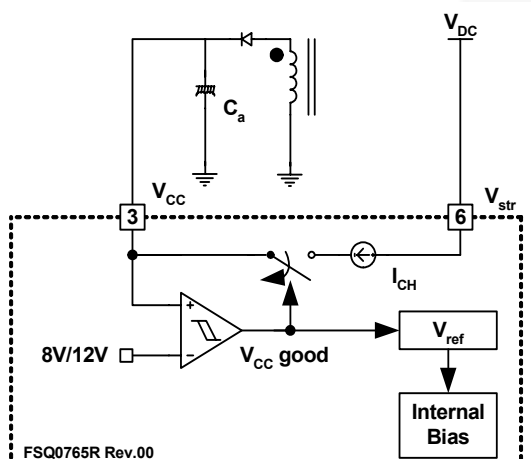

Figure 22. Start-up Circuit
**1. Start-up:** At start-up, an internal high-voltage current source supplies the internal bias and charges the external capacitor ( $C_a$ ) connected to the  $V_{CC}$  pin, as illustrated in Figure 22. When  $V_{CC}$  reaches 12V, the FPS™ begins switching and the internal high-voltage current source is disabled. The FPS continues its normal switching operation and the power is supplied from the auxiliary transformer winding unless  $V_{CC}$  goes below the stop voltage of 8V.